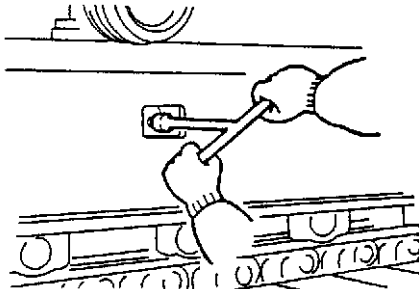

Fig 20.
- 2 Loosen the check valve to bleed out grease and slacken the track → Fig 20. \(□ J-8\).